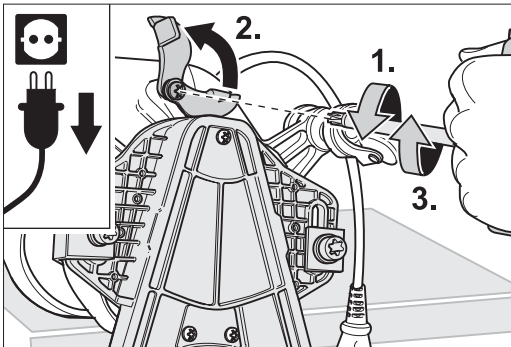

Fig. 30 Loosen the screw, turn away the belt tightener plate and retighten the screw.
- 3 Undo the belt tightener plate screw using the universal spanner, turn it so that it faces the back and then retighten the screw (Fig. 30).